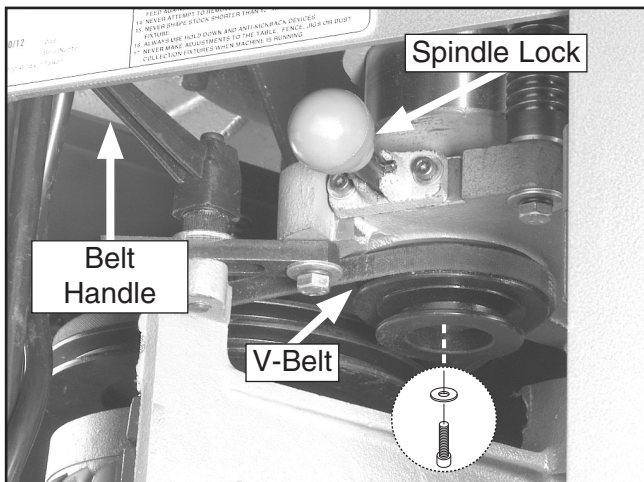

Figure 7. Locations under table.
8. Open the cabinet door, unlock the belt handle, and remove the V-belt from the spindle pulley (**Figure 7**).
9. Using a 5mm hex wrench, remove the cap screw and flat washer from the bottom of the pulley (**Figure 7**).
10. Disengage the spindle lock, and remove the spindle pulley and key located at the bottom of the spindle (**Figure 7**).